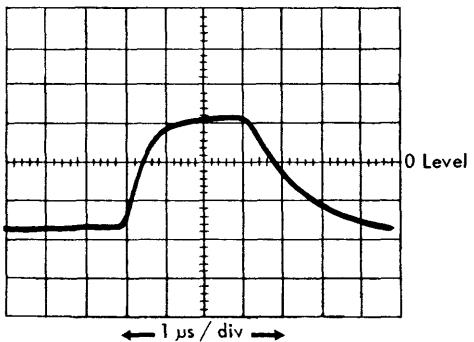

Figure 7. Process Unit Clock  $\phi C$  (1Xc)  $3.0 + .25, -0 \mu s$
$\phi C$  pluggable unit 1S2 (1.01.01) (See Figure 7):
2. Observe  $\phi C$  pulses at 1Xc (1.01.01) (See Figure 7).